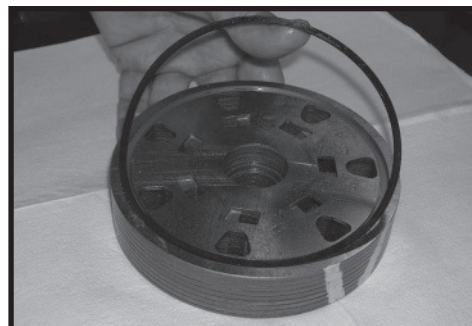

Figure 55
15. Apply clean grease to a **new** seal ring (4) and assemble it in the seal ring groove in the rotor set contact side of manifold (7). SEE FIGURE 55.